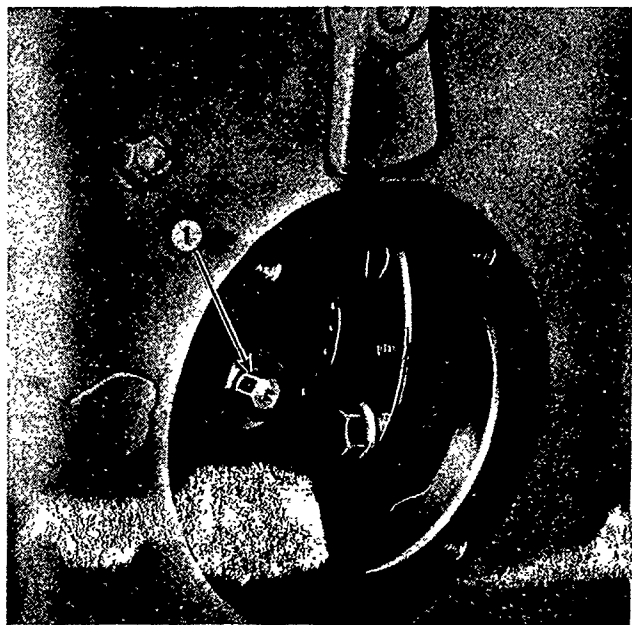

Figure 18
NOTE: Figure 18 shows the adjusting screw viewed from the side of the tractor with the cover removed from the transmission center housing. It is not necessary to remove the plate when carrying out the adjustment when the top cover is removed.
6. Set the system selector lever at the Hare Load Monitor setting, then align the upper edge of the lift control lever with the Load Monitor notch of the quadrant. If the lift linkage has not raised, proceed to Step 7. If the lift links have raised, lower the lift control lever and rotate the Load Monitor fork adjusting screw, Figure 18, so that the fork lever moves slightly rearward. Repeat this procedure as necessary until the lift control lever can be aligned with the Load Monitor notch without lift action.